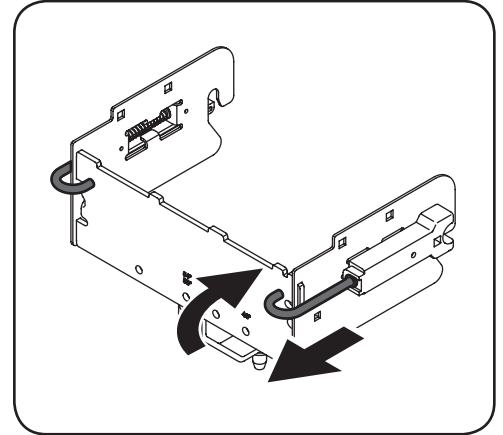

Figure 1-3
2. Pull back j-pins and lock open by twisting them inward slightly and letting them rest on the back of the rear support bracket. See Figure 1-3.